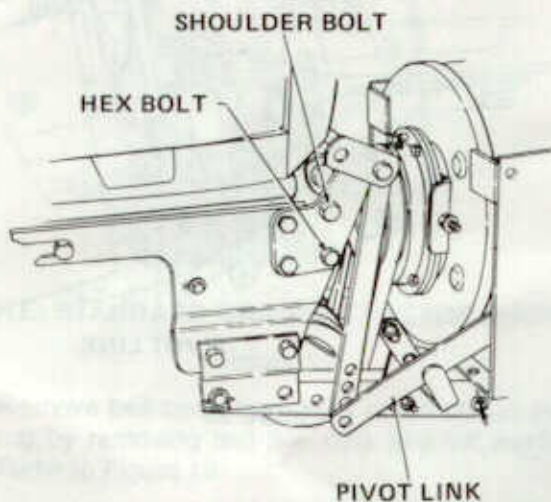

Figure 22
- a. Remove shoulder bolt, lock washer and hex nut from top holes in undercarriage. Refer to Figure 22.